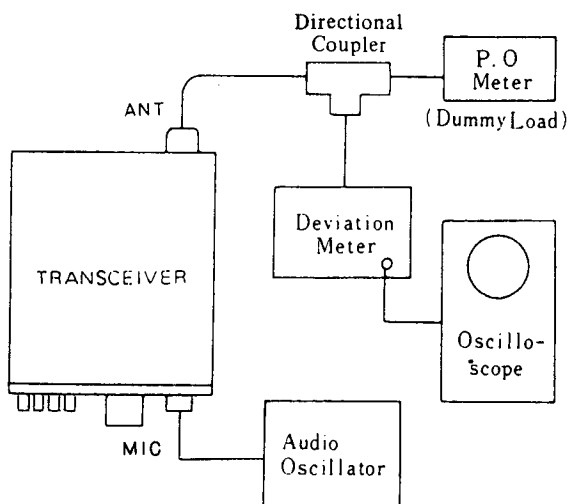

Figure 3
(6) Low Power Output Setting
(7) FM Modulator Adjustment
- a) Refer to Fig. 3, and set up the transceiver and test equipment as shown.
(8) SSB Modulator Adjustment